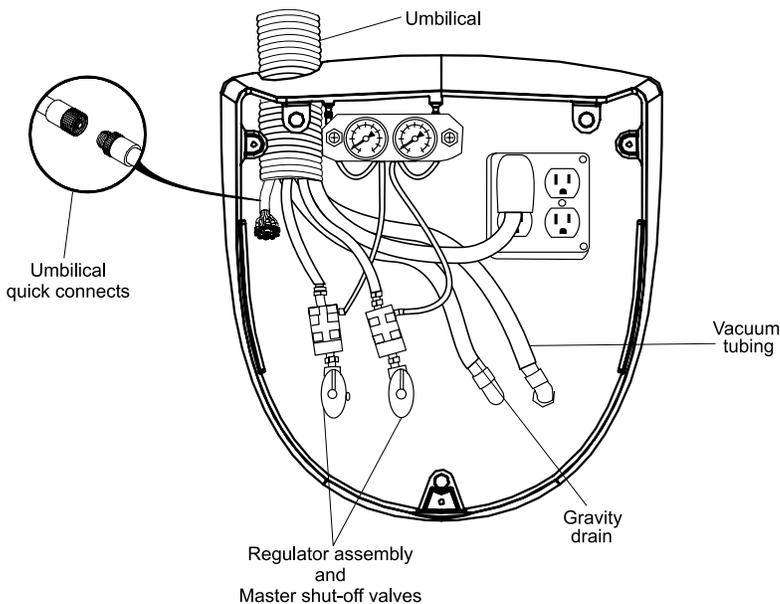

Figure 1
2. Locate the junction box template and refer to figure 1 for general layout. Place the junction box base over the office plumbing with the umbilical entering the enclosure on the properly configured side. Next install the master shut-off valves. Using a 5/8" wrench, install the air and water shut-off blocks onto the master valves. Tighten the compression nuts securely.